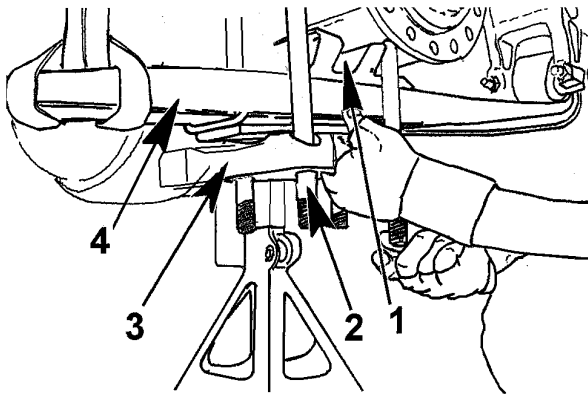

Figure 22 U-Bolt Removal
6. Loosen and remove u-bolt nuts (Figure 22) from axle brackets and taper leaf spring lower u-bolt plate.
2. Locate main support member end with (Figure 13, Item 5) bushing assembly, at the forward suspension mounting bracket (Figure 22, Item 1).
7. Align and install lower u-bolt mounting plate, install u-bolt nuts and hand tighten (Figure 22, Items 2 and 3).